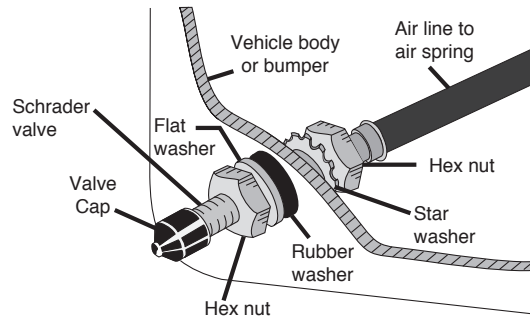

fig. 12
7. Route the air line along the frame to the air spring fitting (Fig. 12). Keep AT LEAST 6" of clearance between the air line and the exhaust system. Avoid sharp bends and edges. Use zip ties to secure the air line to fixed points along the chassis. Do not pinch the air line. Leave at least 2" of slack to allow for any movement that might pull on the air line.